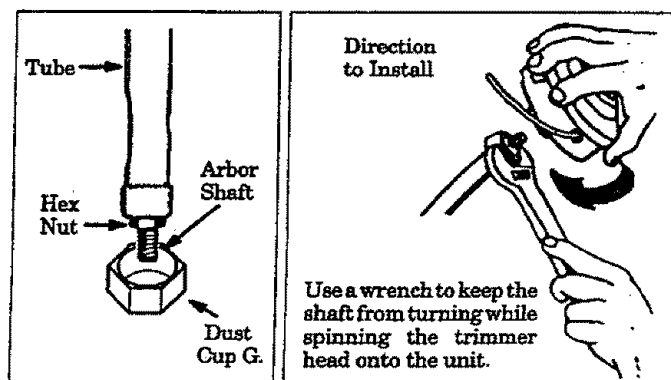

Figure 3
- Place the dust cup "G." over the hex nut on the bottom of the tube. Figure 3. The hex nut should fit completely inside the dust cup.